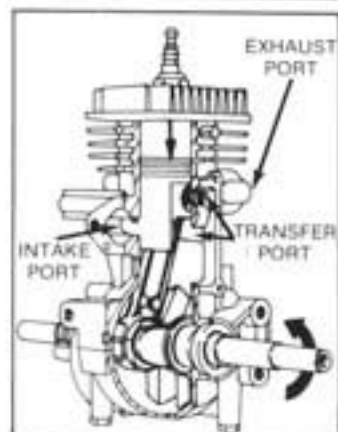
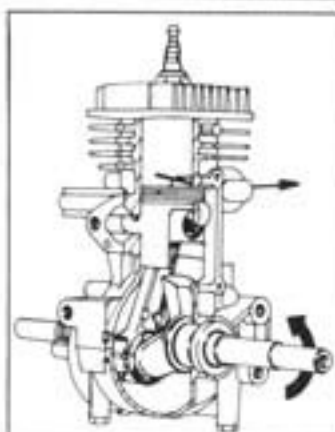
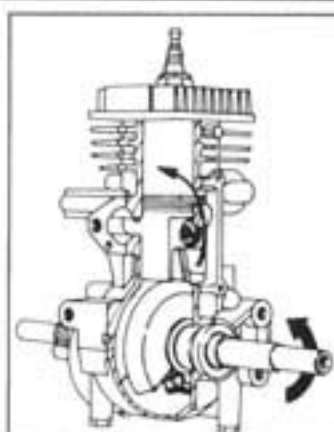
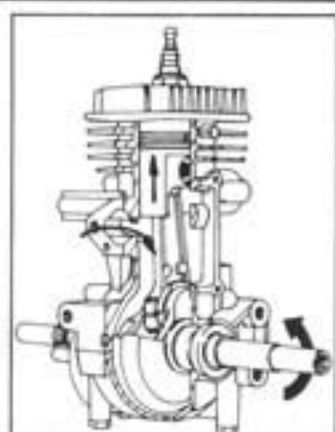

Fig. 1 — Power
Fig. 2 — Exhaust
Fig. 3 — Intake
Fig. 4 — Compression
All Briggs & Stratton 2 cycle engines are of the same basic 2 stroke cycle design. It is a third port, loop scavenged design. As the name (2 cycle) indicates, there are only 2 strokes of the piston to complete the entire power cycle in one revolution of the crankshaft. Four major events occur during each revolution of the crankshaft. They are: Fig. 1 — Power, Fig. 2 — Exhaust, Fig. 3 — Intake, and Fig. 4 — Compression. Ignition of the Air-Fuel mixture will occur during compression. During the 1st Cycle (first 1/2 revolution) Power and Exhaust occur. During the 2nd Cycle (second 1/2 revolution) Intake and Compression occur. To describe these events, we will assume that the piston is at Top Dead Center and Ignition has occurred. A fresh charge of Air-Fuel mixture is in the crankcase.
1. Power The burning Air-Fuel mixture expands, pushing the piston and connecting rod down, causing the crankshaft to revolve. Until the piston opens the Exhaust Port, power will continue. The Third Port has closed, Fig. 1.
2. Exhaust When the Exhaust Port begins to open, the Third Port has closed. As the piston continues to move down, the exhaust gases flow out the Exhaust Ports and because the volume of the crankcase is decreasing, the Air-Fuel mixture in the crankcase is increasing in pressure until the piston begins to reach Bottom Dead Center, Fig. 2.
3. Intake Near the bottom of the down stroke and during the beginning of the up stroke, the Transfer Ports open. Because the pressure is higher in the crankcase than in the combustion chamber, the Air-Fuel mixture in the crankcase moves from the crankcase through the Transfer Ports into the combustion chamber. This action also purges the remaining exhaust gases out the Combustion Chamber, Fig. 3.
4. Compression As the piston continues to move up, it closes the Transfer Ports and the Exhaust Ports. With Transfer and Exhaust Ports closed, the Air-Fuel mixture is being compressed in the combustion chamber. Because the volume is increasing in the crankcase, the pressure is dropping to less than normal air pressure. As the piston approaches Top Dead Center, the Third Port starts to open. With pressure higher in the carburetor than in the crankcase, the air mixes with fuel in the carburetor and pushes into the crankcase. Just before Top Dead Center, ignition of the air-fuel mixture occurs to begin the next complete revolution of the crankshaft, Fig. 4.